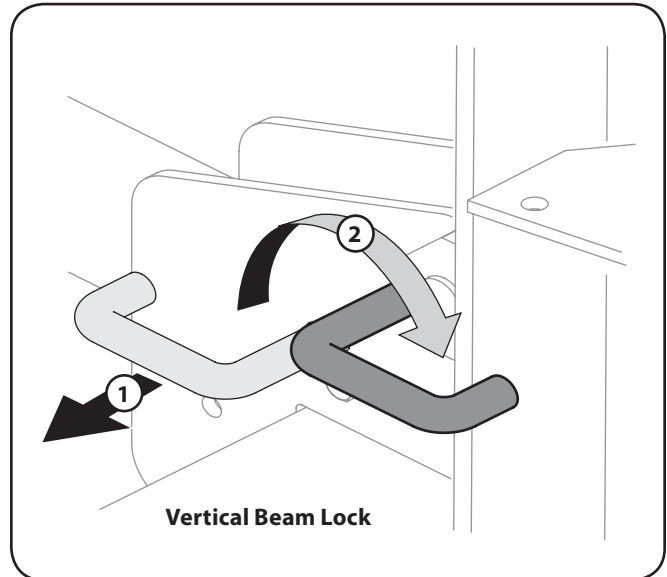

Figure 5-2
- b. To lock the beam in the vertical position, pull out on the vertical beam lock and rotate it to secure the beam. See Fig. 5-2.